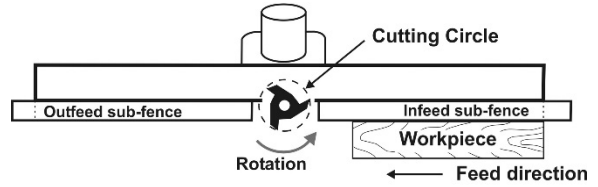

Figure 8-3
- Do not perform “climb cuts” (feeding the work with the bit rotation). Always feed work *against* the bit rotation. See Figure 8-3.
by the cutter, both sub-fences are set in a straight line as shown in Figure 8-3.